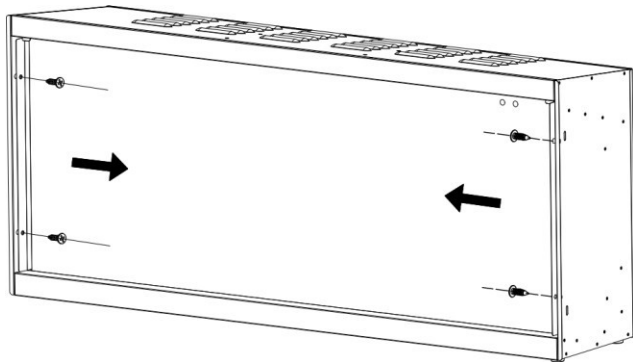

Fig. 2-1
- A. Take off the screws on both side.(Fig. 2-1)